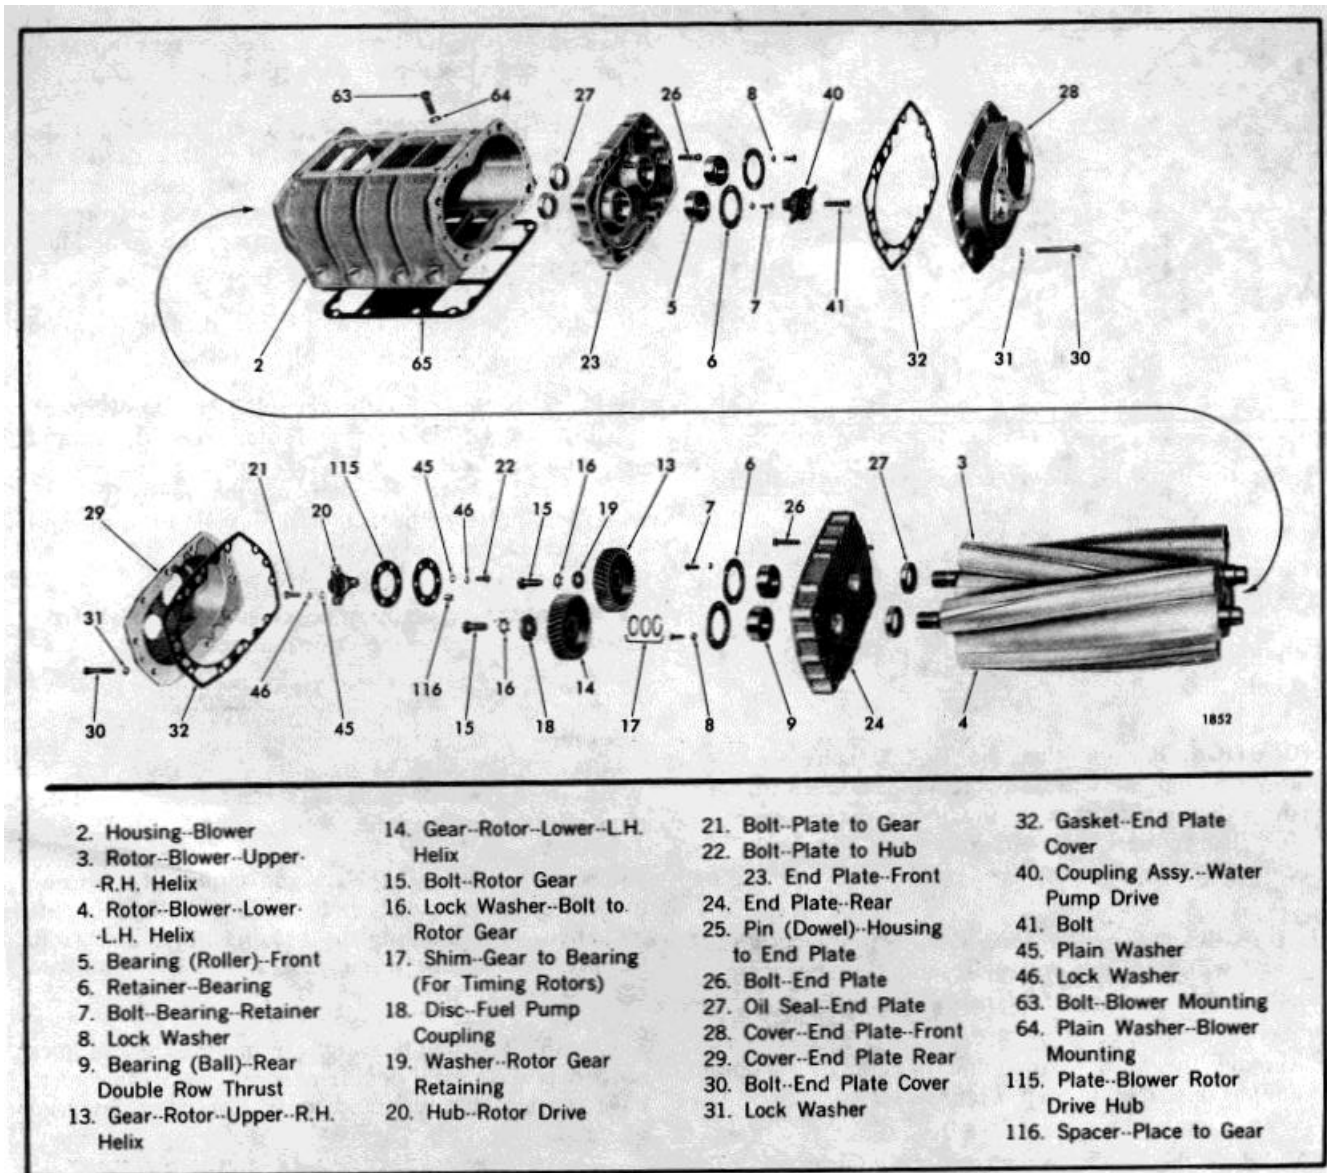

Fig. 7 - Typical Details and Relative Location of Parts
4. Refer to Fig. 7 and remove the bolts (21), lock washers and plain washers securing the blower rotor drive hub (20) and drive hub plates (115) to the blower rotor timing gear (13). Remove the drive hub plates and spacers (116) from the gear. If necessary, remove the three bolts (22), lock washers and plain washers securing the drive plates to the drive hub.
With this precaution in mind, proceed with blower assembly, referring to Figs. 7 through 15 as directed in the text.
3. Refer to Fig. 7 and affix a new gasket (32) to the blower front end plate cover (28).